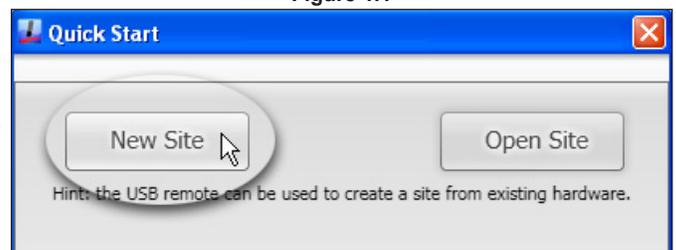

Figure 1.2
5. At the **Quick Start** dialog box, click the **New Site** option button (Figure 1.2). *The Open Site option is used to open a previously saved site configuration file.*